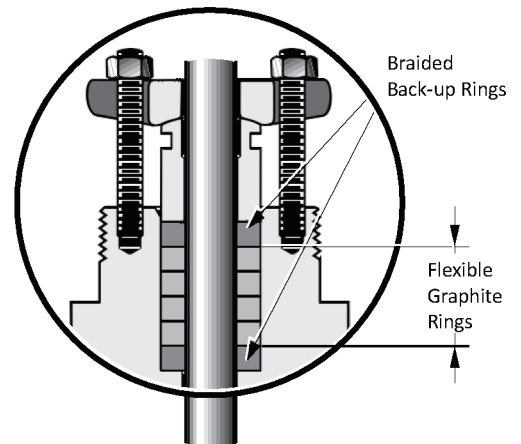

Figure 5 - Flexible graphite rings arrangement (Option)
7.3.2 Flexible graphite rings (optional-See Figure 5)
- E. Replace new packing set (6); first assemble a back-up ring (Graphite Filament Yarn braided ring), then the flexible graphite rings (smooth rings), and finally another braided back-up ring (refer to Figure 5).